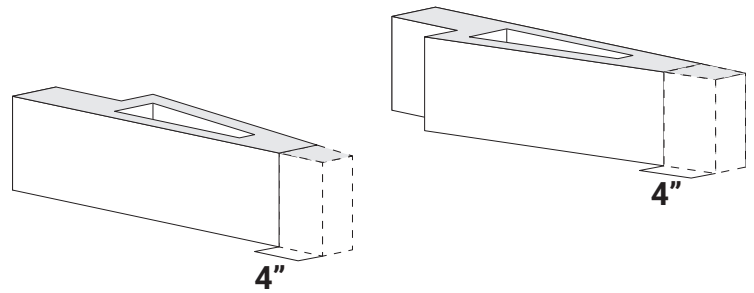

FIGURE 5.8
The Arched Front Outdoor unit includes two (2) side block components that are approx. 4" shorter than the other side blocks included in the kit (Figure 5.8).
Field modifications can be made in instances where cut side blocks are not provided. Using a masonry saw or skill saw with a diamond or carbide blade, cut 4" from the front of the block as shown in Figure 5.8. Once cuts are made, refer to installation instructions above for assembly.